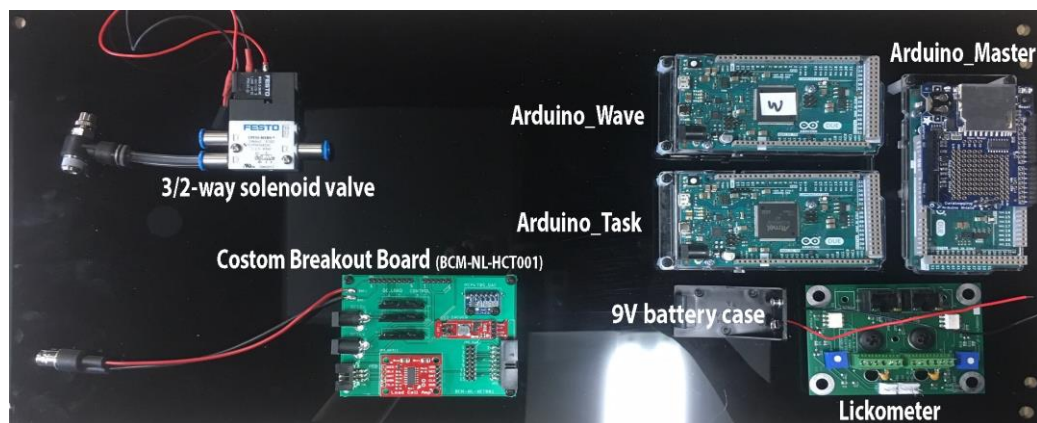

Fig. 2.3
- Fix three **Arduino boards** (Mouse, A000062), one custom **lickometer PCB**, one **9V battery case**, one **3/2-way solenoid valve** (FESTO, 196847) and custom breakout PCB on the enclosure right board (Fig.2.3). Assemble a **SD card shield** (<https://www.adafruit.com/product/1141>), and insert into Arduino_Master board.